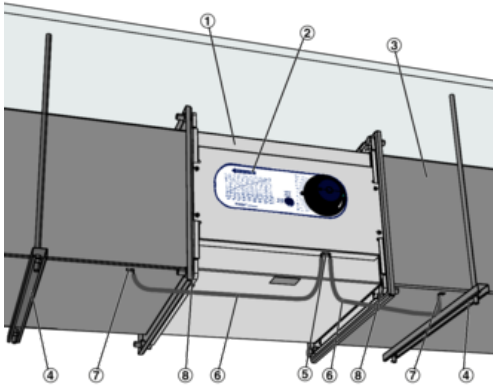

Fig. 10: Installation example
1. ▶ Install suspension rods and bars (Fig. 10/4) at the installation location, at a distance of approx. L+100 mm.
2. ▶ Assemble the ducts (Fig. 10/3) and lead them up to the installation location of the terminal unit.
3. ▶ Insert seals (Fig. 10/8) between the flanges
Observe the air direction arrow (Fig. 10/2) during installation.
4. ▶ Screw the terminal unit (Fig. 10/1) together with screws, washers and nuts M10 (Fig. 10/8).
- Screw connection (Fig. 10/8) with screws and washers M8;
7. ▶ Make the equipotential bonding (Fig. 10/6) using ground strap and blade connector (Fig. 10/5).
Use a self-drilling screw (Fig. 10/7) to fix the ground strap to the duct.